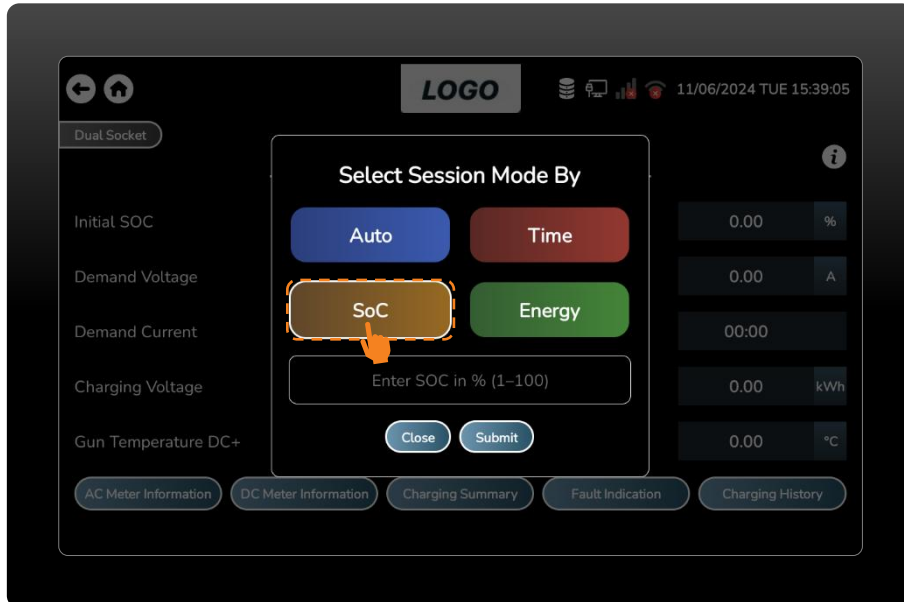

Figure 88 SoC Mode Selection.
- SoC mode allows the user to specify the state of charge, which ranges from 1 to 100%, allowing them to charge the vehicle at a certain percentage. (Figure 88)